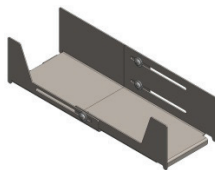

Figure 29
- 7.1 Facing the front of the frame, install the left routing tray first (Figure 29). With the tray in the collapsed position, place in the desired location and expand the tray until the tabs can be positioned in the left routing slot (Figure 32) and over the center frame body respectively.